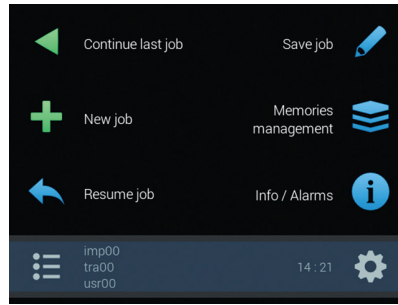

Fig. 226
- Turn the monitor on (par. 1.2). After self-diagnostics, the monitor displays the "Home" screen (Fig. 226).